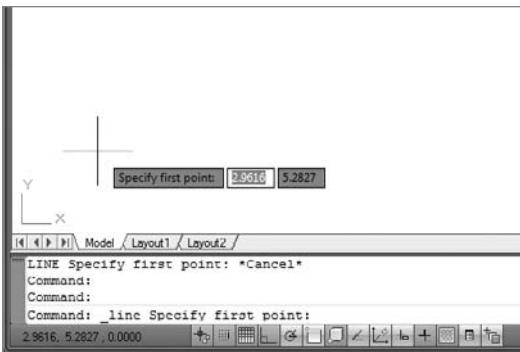

FIGURE 2.7 Both the command prompt and the cursor change to reflect the current command.
3. From the Home Ribbon tab > Draw panel, click the Line tool. Look at both the bottom of the command window and your cursor. Because Dynamic Input is turned on, prompts such as this one display both at the command line and next to the cursor (see Figure 2.7).